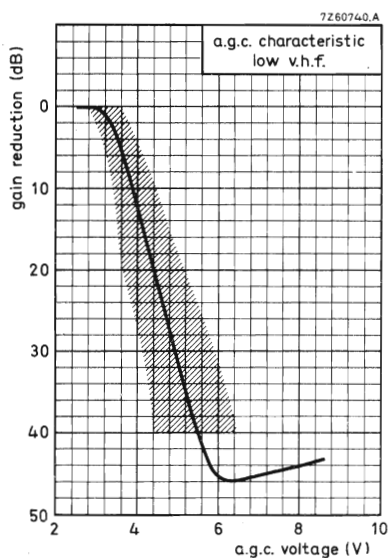

Fig. 5
A.G.C. voltage (Figs. 5, 6 and 7)